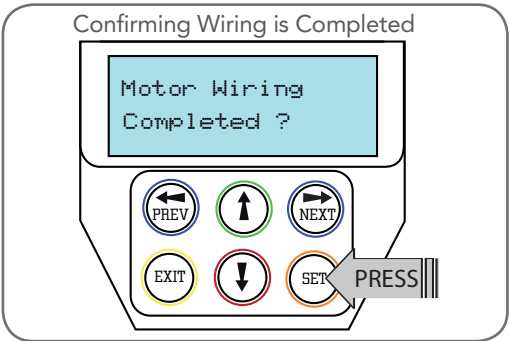

Fig 8.2
- d. DCB-05V2 will prompt you to confirm that the motor wiring is complete (**Fig. 8.2**) and that the gate(s) are at fully open position and engaged.